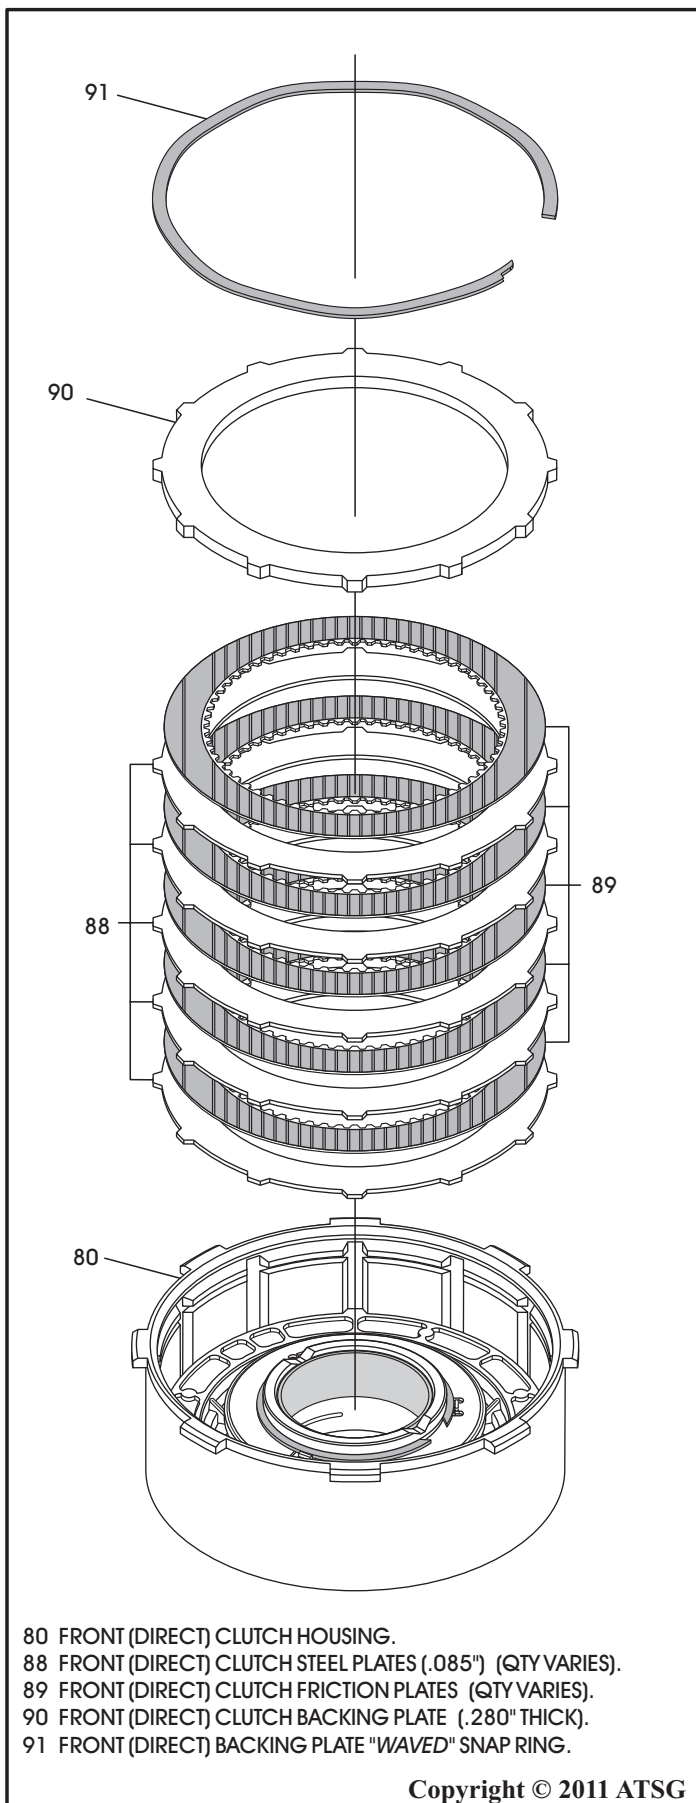

Figure 119
11. Install direct clutch pack beginning with a steel plate and alternating with frictions, as shown in Figure 119, until you have the proper amount installed, as amount will vary by model. The 48RE requires 5 of each.
12. Install the direct clutch backing plate, as shown in Figure 119.
13. Install the direct clutch backing plate snap ring, as shown in Figure 119.